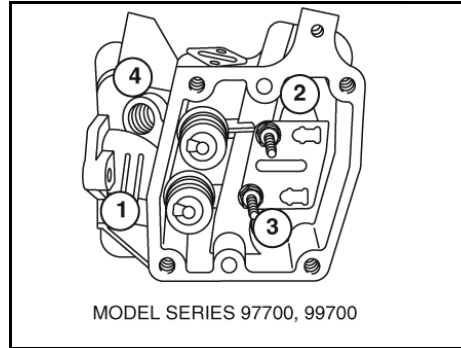

Figure 15
- Using a new head gasket, install cylinder head on cylinder and start screws by hand. Step-torque screws in sequence shown (Figures 15, 16, 17, 18) until final torque value is achieved. Torque screws to value listed in Section 12 - Engine Specifications.